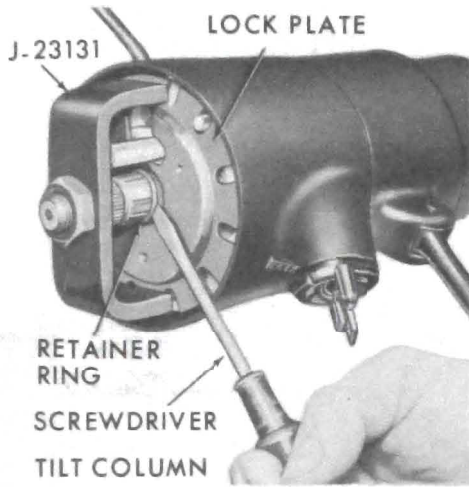

Figure 90-108 Removing Lock Plate Retainer Ring
3. Depress lock plate using tool J-23131 and the steering wheel nut. Pry the round wire snap ring out of the shaft groove and discard ring. Remove the snap ring and shaft lock plate. See Figure 90-108.